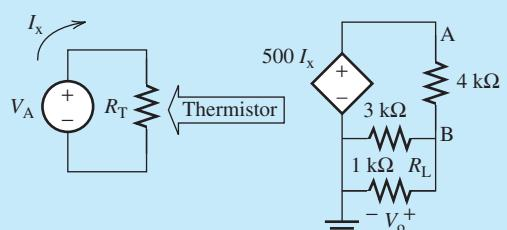

FIGURE 3.44 Circuit model for the controlled thermistor.
The thermistor is connected as shown in Figure 3.44. The output voltage, V_o , is measured to be 0.73 V. This is the voltage seen by the monitoring computer. The voltage, V_A , is used to convert the varying resistance of the thermistor to the varying current, I_x . This is isolated from the computer by the dependent source.
- a. Based on Figure 3.44, the output voltage is given, therefore, $V_o = V_B = 0.73$ V. Now, using node voltage analysis applied to node B: